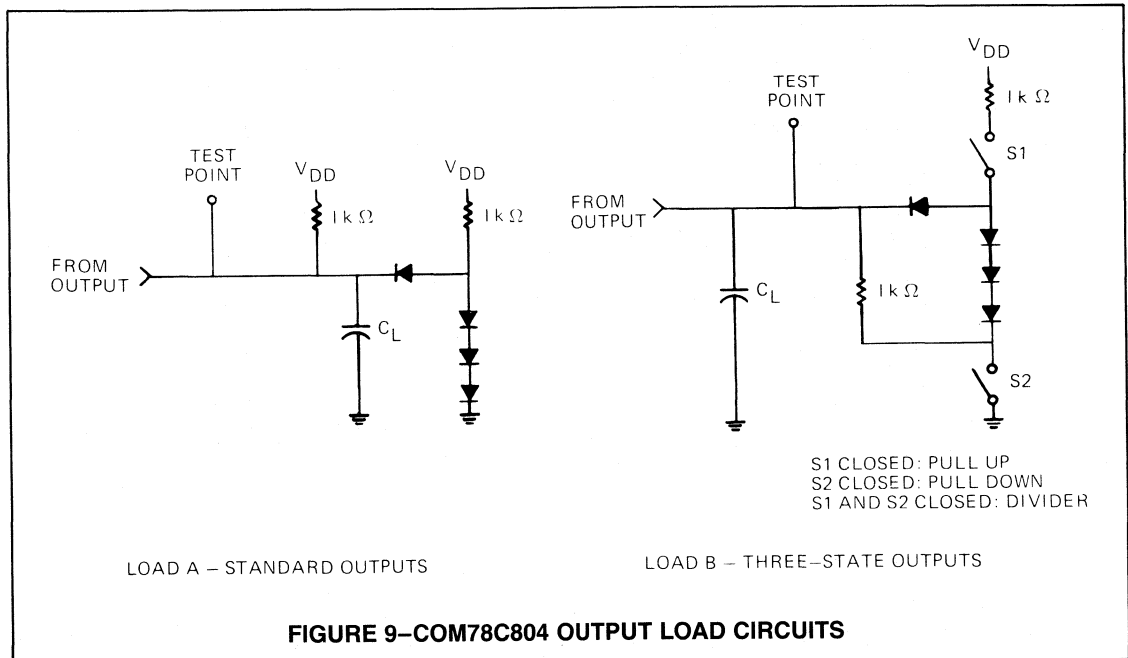

FIGURE 9-COM78C804 OUTPUT LOAD CIRCUITS
¹Refer to Figure 9 for the load circuits used with these measurements.
³Total rise time depends on internal delay plus the pullup delay introduced by the external resistor being used. The t_{ID} parameter can be calculated by the following: $t_{ID} = 500 + RC_L$, where R = value of the resistor that connects to capacitor C_L in load A, Figure 9.
⁴Total rise time depends on internal delay plus the pullup delay introduced by the external resistor being used. The t_{RDH} parameter can be calculated by the following: $t_{RDH} = 75 + RC_L$, where R = value of the resistor that connects to capacitor C_L in load A, Figure 9.
*Refer to Figure 9 for the load circuits used with these measurements.
- REFER TO FIGURE 9. A = S1 CLOSED, B = S2 CLOSED, C = S1 AND S2 CLOSED.